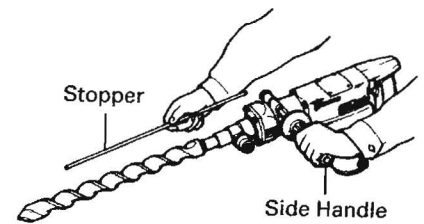

Fig. 7
(1) Install the stopper (Fig. 7)